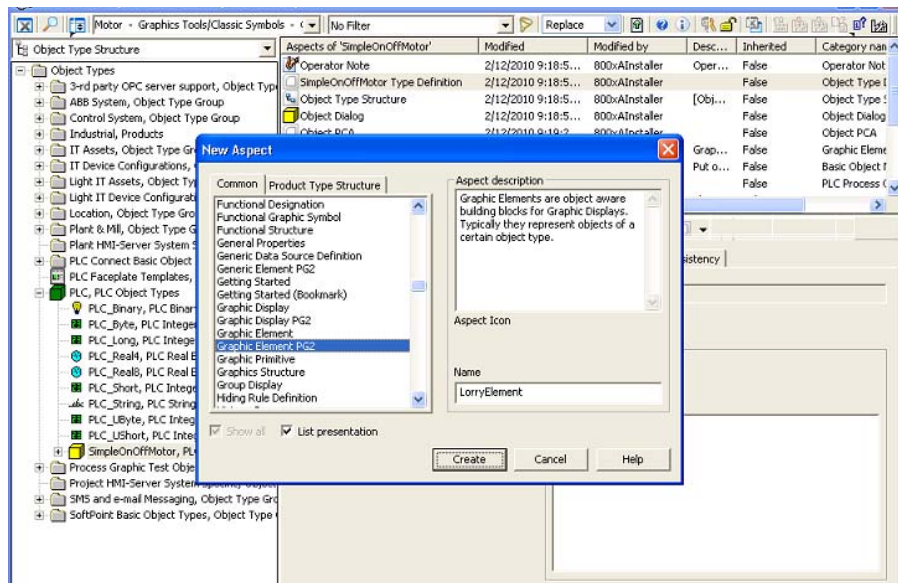

Figure 1. Create Graphic Element Aspect
1. Select an object type in the **Object Type Structure** as shown in Figure 1.